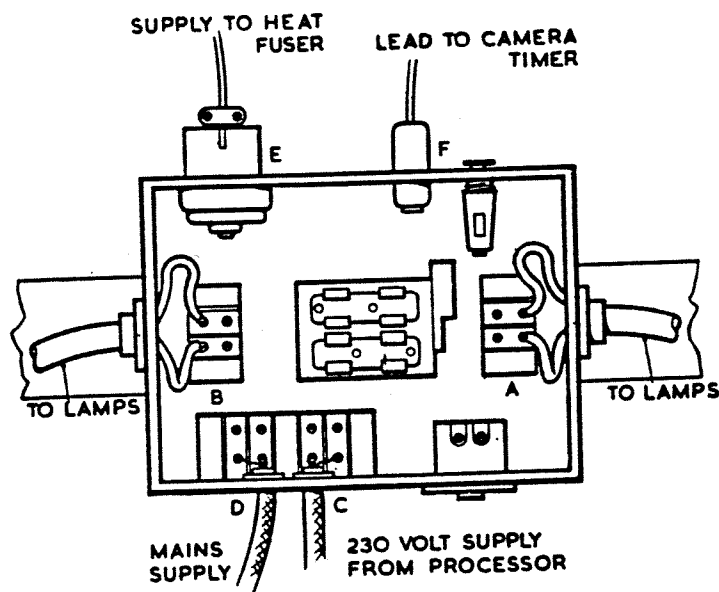

Fig 2B-6. 1385 VR Camera-Control Box Connections
8. Check that the lens board and camera back are secured to their bottom mounting brackets and that all bolts are tight. Should either of these members have become loose in transit, they should be set at 90° to the camera base with the aid of the service-issue spirit level (see Fig. 2B-4, B). Each fixture consists of two large nut and bolt fixings and a locating screw between them. To adjust for exact perpendicularity it is not necessary to release the central locating screw; slacken the two nut and bolt fixings, adjust for perpendicularity and finally re-tighten the two large fixings.
10. Make the various connections from the control box, Fig. 2B-6, as follows:-